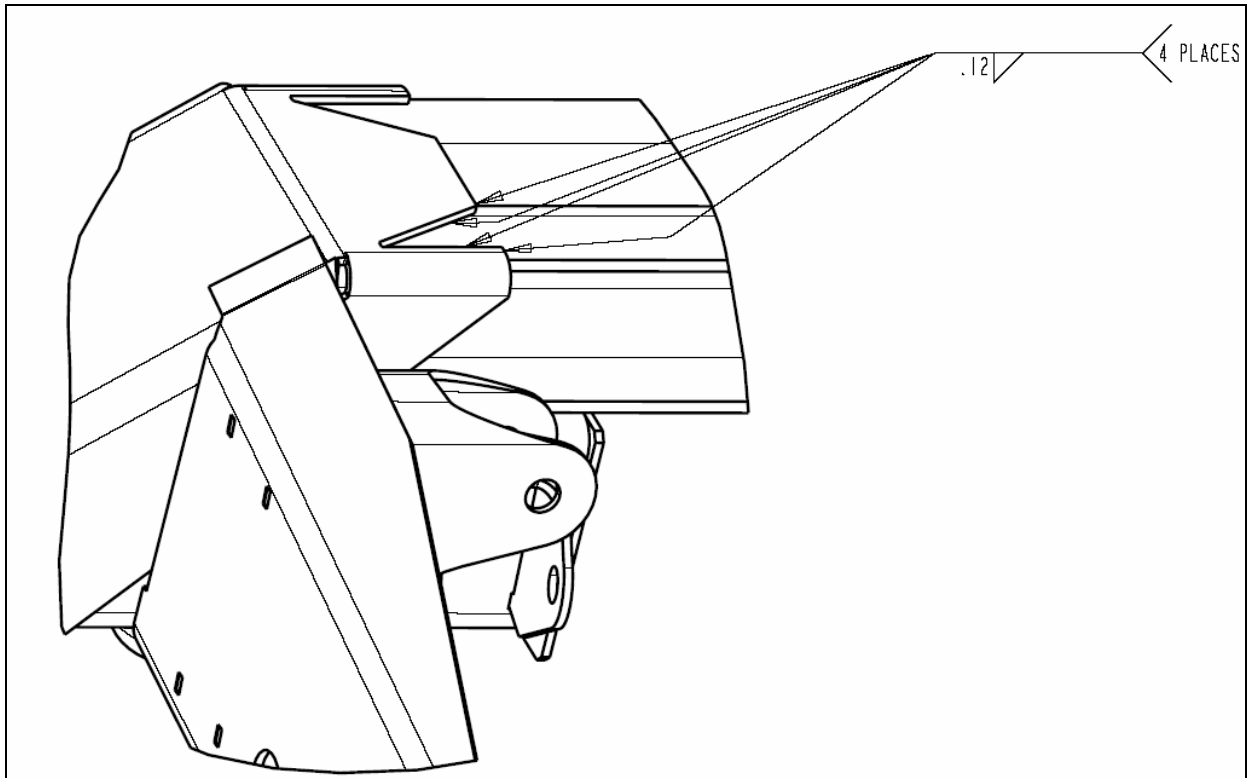

Figure 4: Weld to bottom of channels
- c. Weld the bottom housings to the channel beams along the new edges of the triangular cut-outs as shown in Figure 4.